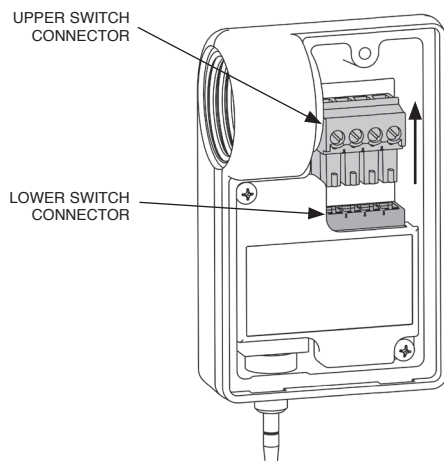

FIGURE 6-40
8. Disconnect the upper switch connector from the lower switch connector by pulling the upper connector apart from the assembly with your fingers. See Figure 6-40.